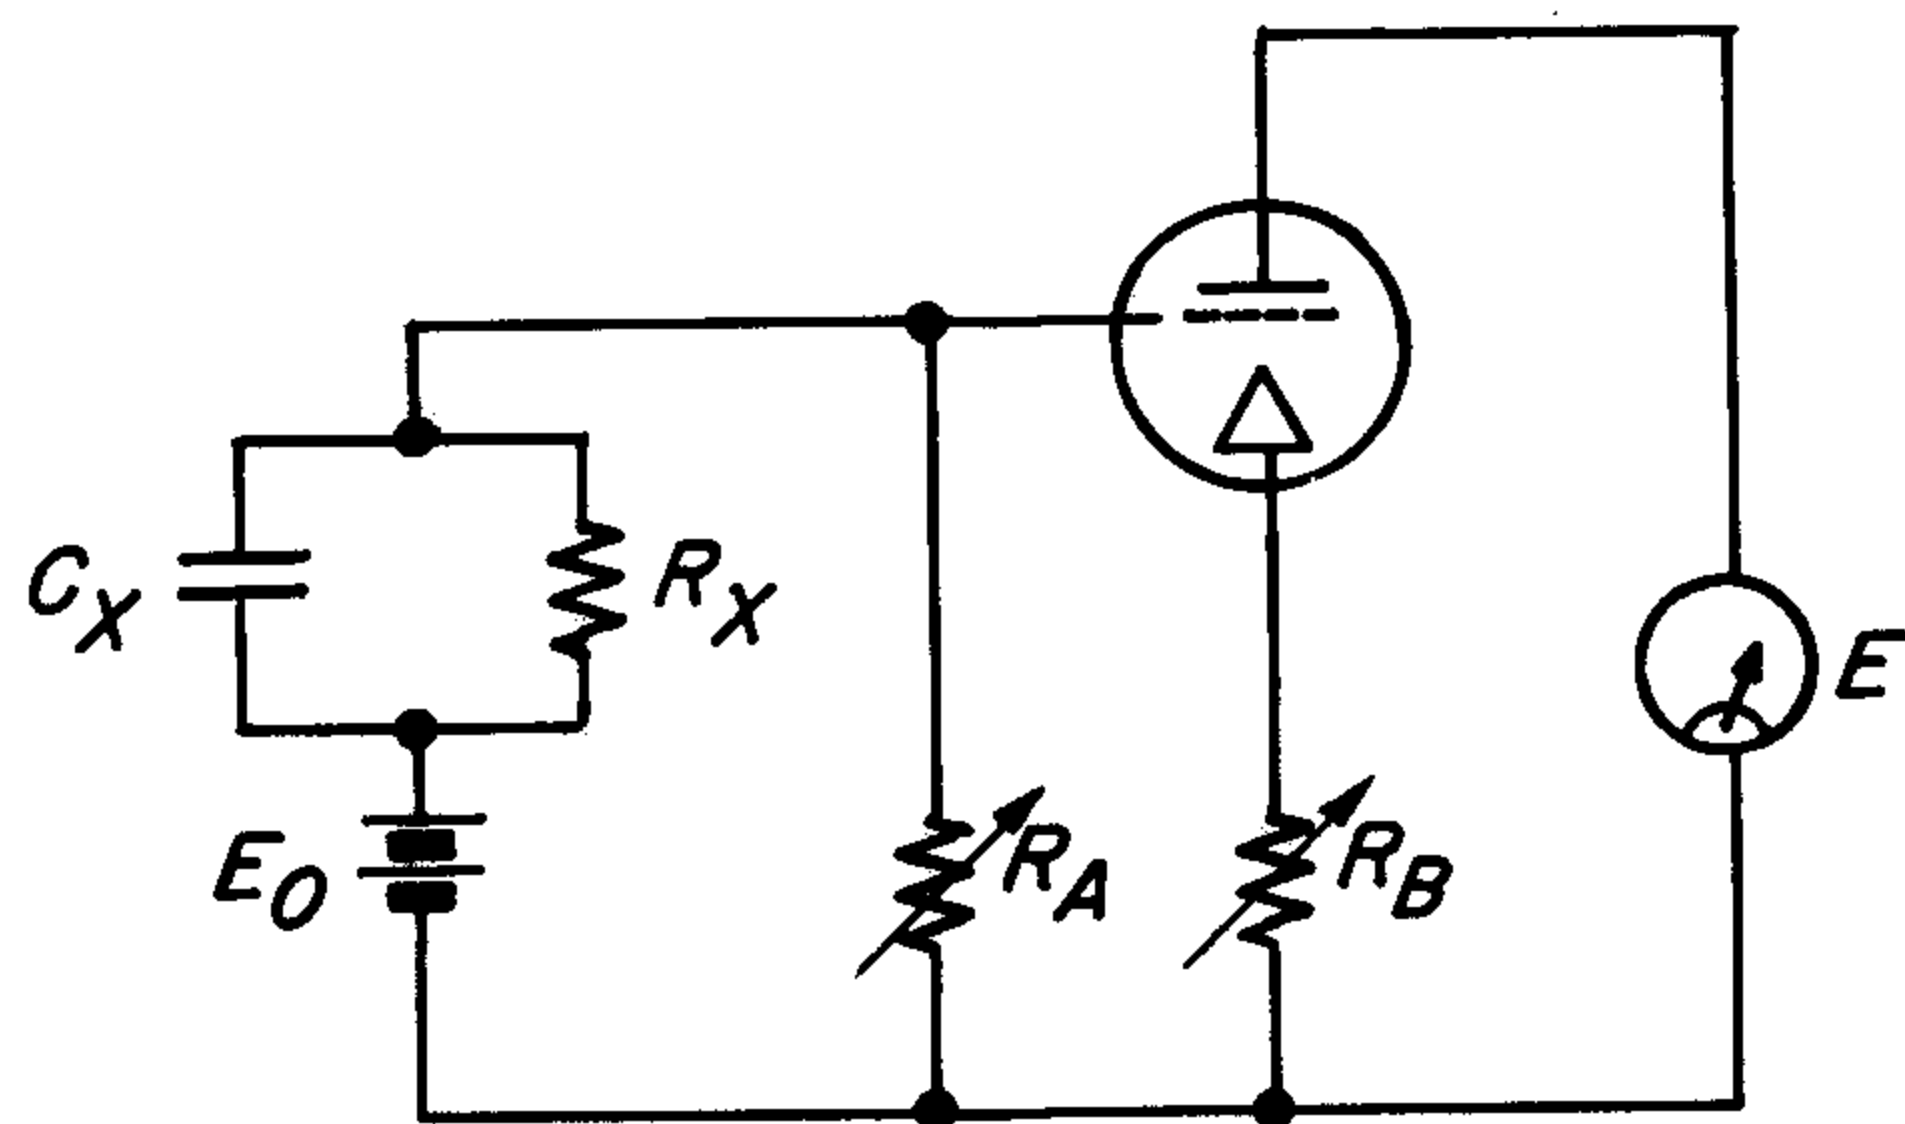

Figure 7. Capacitor Leakage-Resistance Measurement.
Consider for example, the circuit shown in Figure 7. The capacitor  $C_x$  will have absorbed about two thirds of its final charge from  $E_0$  in a time determined by the  $R_A C_x$  product if there is no appreciable dielectric absorption. This is true of air capacitors. For most dielectrics, the time necessary for the capacitor to absorb the charge is much greater than the  $R_A C_x$  product because of interfacial polarization. Consequently, when a potential is applied to a capacitor, the time required for a complete charge can be a matter of seconds, hours, or even days, depending on the dielectric and on the leakage.
4.6.2 When measuring the leakage resistance of a capacitor (see Figure 7), start with the OHMS MULTIPLIER switch ( $R_A$ ) at zero. With the function switch at either 30 MV (with an external d-c supply) or 90 OHMS (internal supply), advance the OHMS MULTIPLIER switch to obtain a meter reading. Monitor the meter reading until it has decreased to a steady value, that is, until the decreasing charge current is small compared with the leakage current. While the charging current is still appreciable, a change in the OHMS MULTIPLIER setting will, for a short time (about  $R_A C_x$  seconds), upset the rate at which the meter reading approaches an equilibrium value.